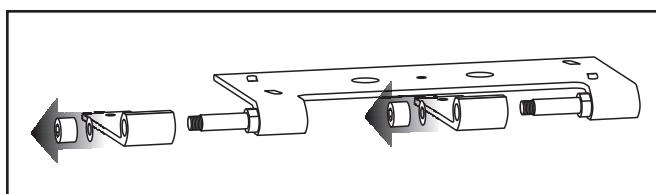

Figure 2. Steps 1-2
- 1 Prepare a flat surface with padding and sheets to protect the speaker as you work on it. Carefully place the EFX face down on the work surface, using books or pieces of cardboard to keep the speaker from rocking. Using a 6mm Allen tool remove the two cap nuts located on top of the cylindrical hinges and place them aside. Carefully remove the wall bracket from the cabinet by sliding it towards the bottom of the speaker (see figure 2).